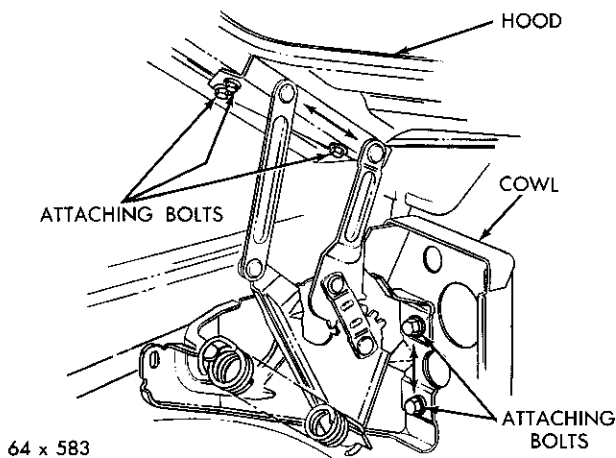

Fig. 44—Hood Adjustment (Imperial)
(1) Inspect alignment at the cowl for tightness, looseness, uneven gap and high or low elevation at the corners.
(2) Scribe the hinge position on the hood.
(3) Loosen the hood attaching bolts (Fig. 44 or 45) and move the hood to the desired position to correct alignment at the cowl.
(4) Tighten the attaching bolts 180 inch-pounds.
- (1) Prop the hood open to relieve the tension on the hinge springs and scribe the hinge location on the hood.
- (2) Loosen the bolts attaching the hood to the hinge plate (Fig. 44).
- (3) Remove the hinge to cowl attaching bolts.
- (4) Remove the hinge to fender shield bolt and remove the hinge assembly.
- (5) Do not remove the hood support prop until the hinge has been completely installed and tightened in place.